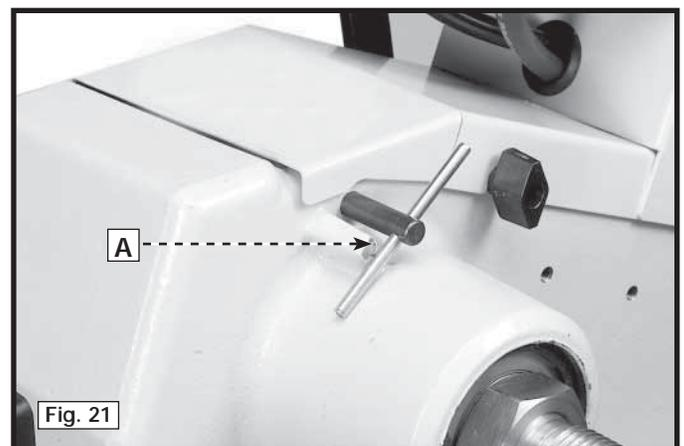

Fig. 21
1. Before activating the spindle, tighten and clear all clamps, bolts, etc. Turn the workpiece by hand to see that it clears the tool rest and to make sure that the spindle lock is in the **UNLOCKED** position (A) Fig. 21.